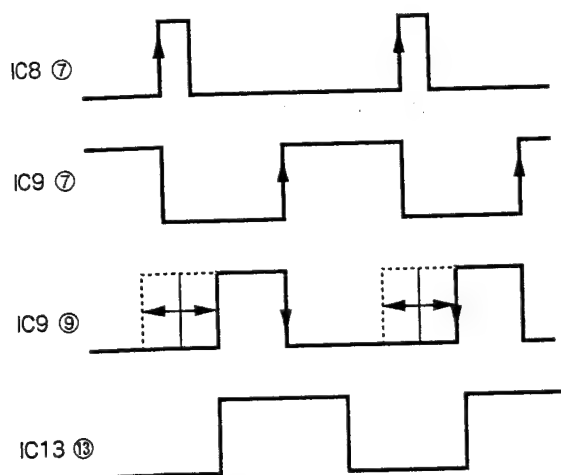

Fig. 1
- (1) H. SHIFT...AFC achieves synchronization by comparing H. SYNC and HD (Horizontal Deflection). When pulse hd is created from HD by shifting a certain phase (τ), and if the AFC is then taken with H. SYNC and hd, the AFC of HD will be shifted by $-\tau$. Therefore, changing τ results in a H. SHIFT.
In practice, the horizontal deflection HD is feedback to connector 7 - b after which it passes through BUFF Q1 and enters IC8, the H. SHIFT circuit. The NOISE content is removed by SW of IC8 and a pulse is produced by IC9 (1/2) using its leading edge as a trigger. Since the integrated value of output (7) of IC9 and $V_{cc}/2$ is compared by IC10 (1/2) and feedback, the second diagram of Fig. 1 becomes a short waveform with a 50% duty factor. This output is once again input into IC9 (2/2) and sent through a similar feedback system. If the phase is controlled using the H. SHIFT voltage ($-2.5V$ to $+2.5V$) from connector 27 - b rather than the comparing voltage $V_{cc}/2$, a movement of $\pm 22\%$ is observed as shown in the third diagram in Fig. 1. By entering this into IC13 and by creating a rectangular waveform with a 50% duty factor, a pseudo HD pulse for AFC use is realized.